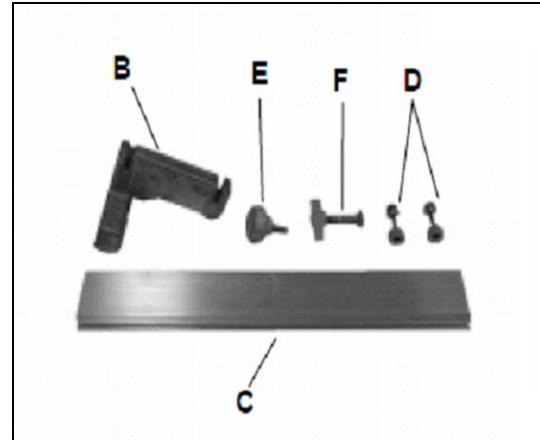

**Fig 6**
To fit the Rip Fence Guide (J, Fig 6) attach it to the front edge of the table with the four winged screws and washers supplied (K). This will be adjusted later.